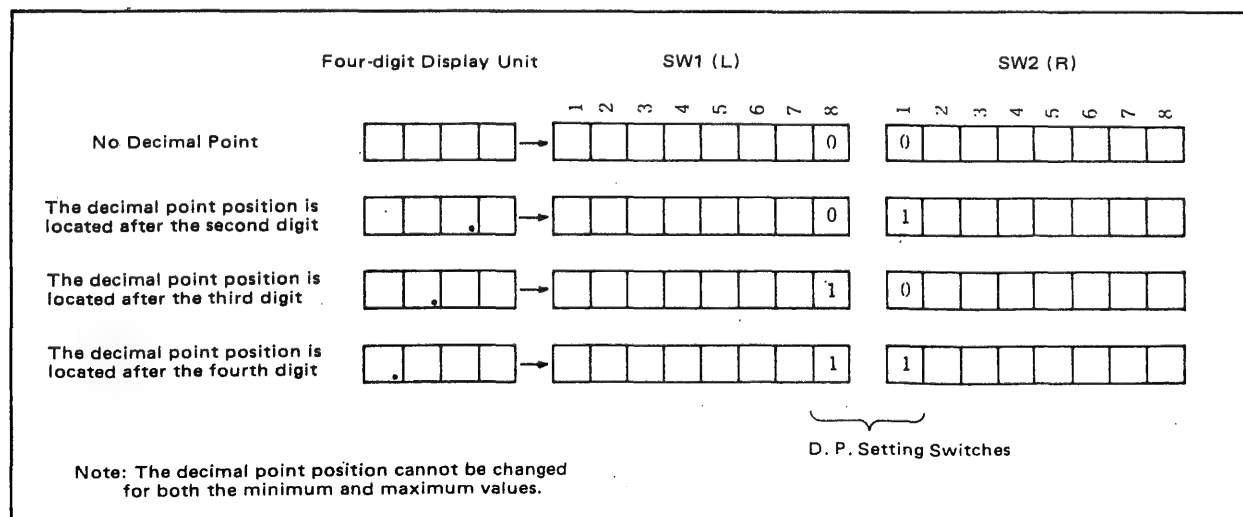

Figure 6-2-8. Decimal-Point Position Setting.
Set No. 8 of SW1 (L) and No. 1 of SW2 (R) as follows depending on the decimal point position required. (See Figure 6-2-8).